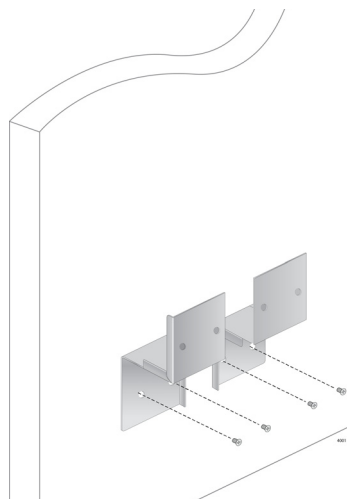

Figure 15. Driving the Screws through the Holes
6. Position brackets on the wall and drive screws through the holes to attach the brackets on the wall. See Figure 15.